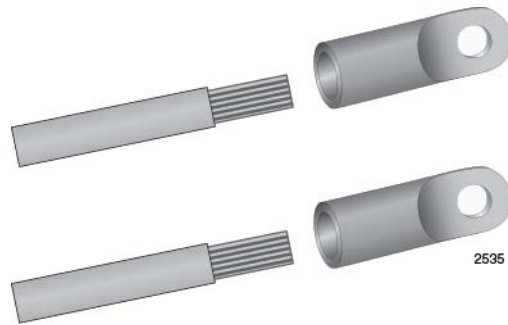

Figure 130. Attaching the Power Wires to the Straight Terminal Lugs
2. Insert the power wires into the terminals included with the power supply and use a crimping tool to secure the wires to the terminals. See Figure 130.